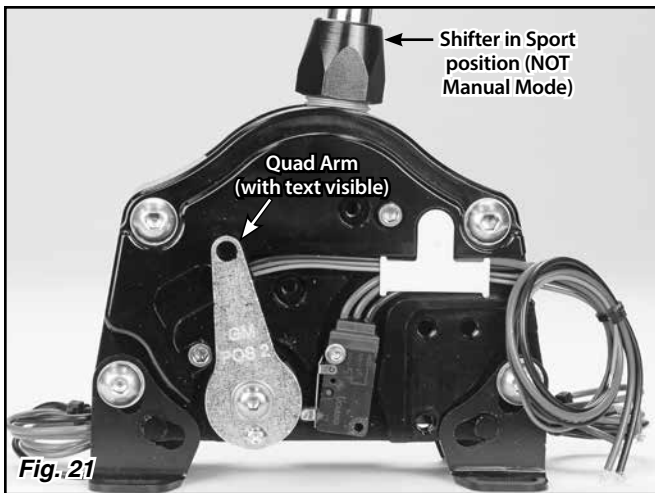

Fig. 21
Step 8: Note you can currently see the text on the outside of the quad arm. Use a 3/32" Allen wrench to remove the #8-32 x 3/8" button head bolt from the quad arm. Fig. 21